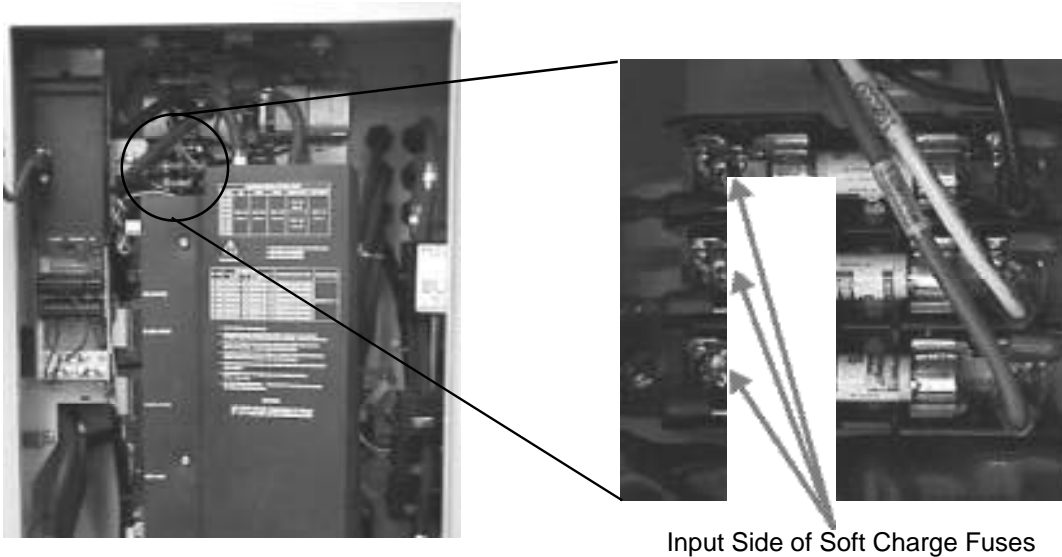

Figure 6. Soft charge fuses - Horizontal Mount
3. Remove the three soft charge fuses from the soft charge fuse block (See Figures 6 and 7).
5. Connect the three fast-on connectors to the input side (left side or bottom end) of the soft charge fuse block (See Figures 6 and 7).